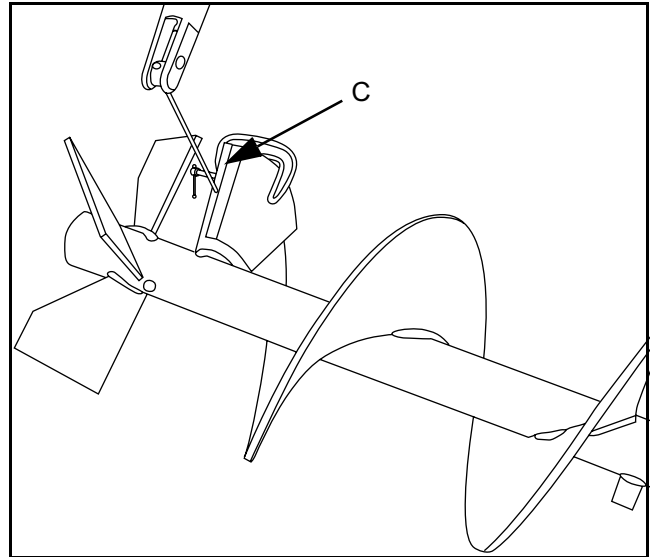

Figure 6 - 27 First and last liners require extra weld
- 6) On the first and last liners of each flight make a weld at the exposed edge for extra strength "C". (Figure 6 - 27)